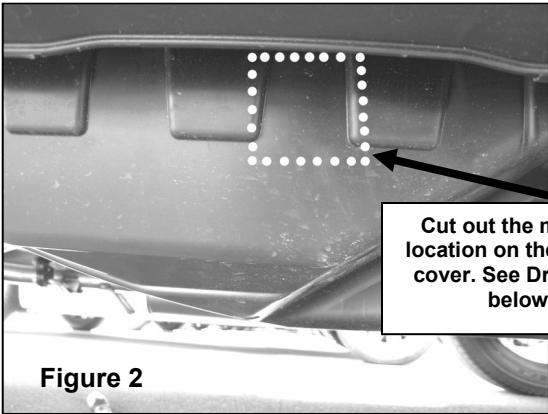

Figure 2
8. Using a sharp knife or pair of shears, cut out the shields as marked using the templates (Figure 2).